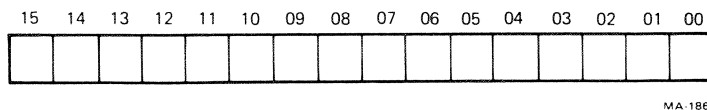

Figure 4-20 RXDB Format (RX11/RXV11)
4.2.2.5 RXDB – RX Data Buffer (Figure 4-20) – All information transferred to and from the floppy media passes through this register and is addressable only under the protocol of the function in progress (Paragraph 4.2.3).